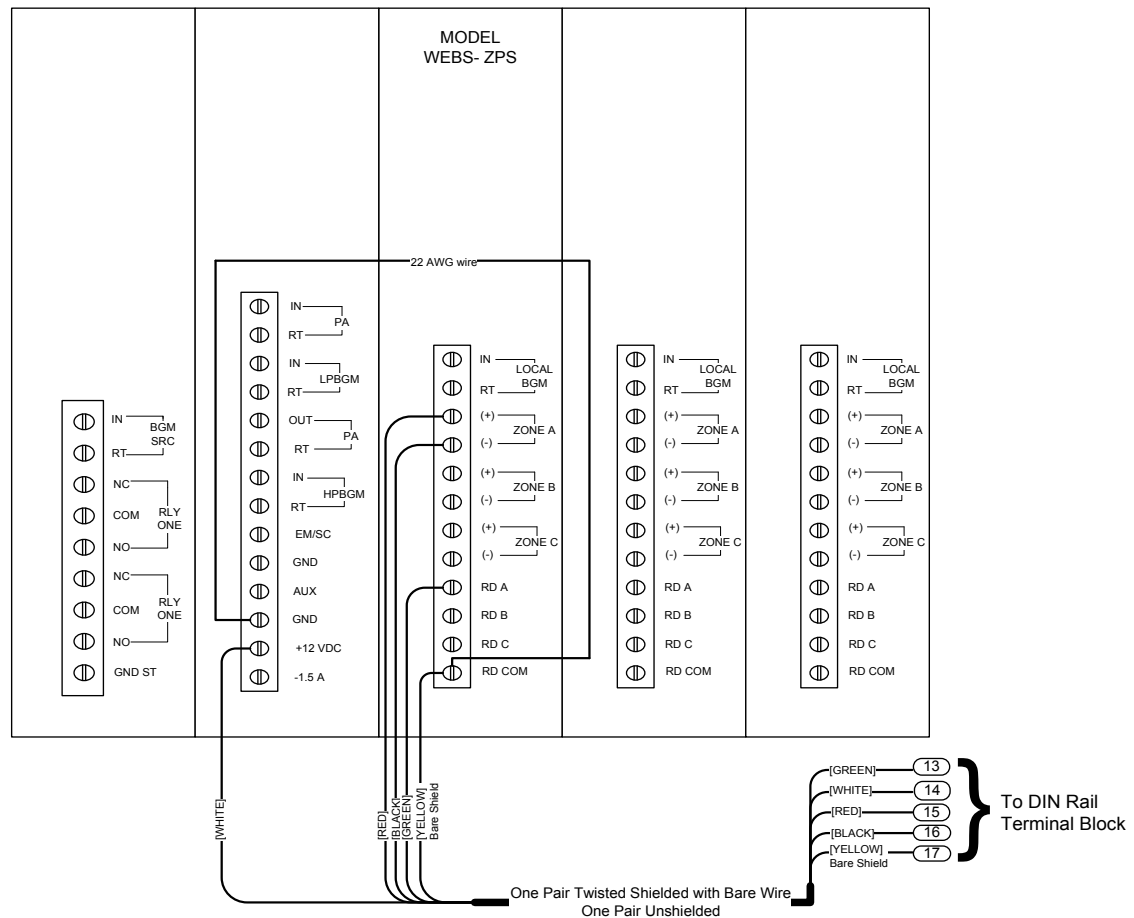

Figure 7. WEBS-ZPS and DIN Rail Terminal Block Connectivity Layout
5. When using the **WEBS-ZPS** make connections to the DIN Rail Terminal Block as shown in **Figure 7**.